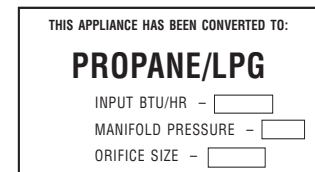

Figure 10
Step 15. Attach appropriate conversion kit label (**Figure 10**) next to the rating plate on the appliance. Attach the installer conversion label next to the gas valve, after filling out the information on the label. Refer to the Installation Instructions for required input rating.